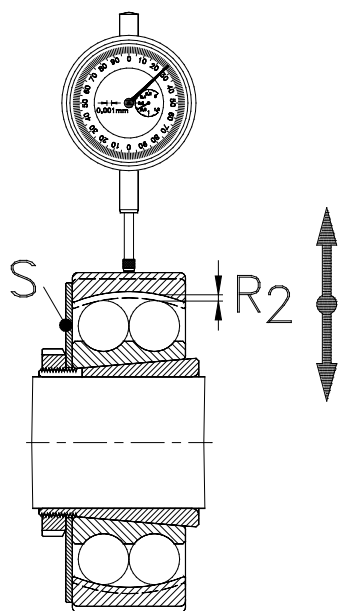

Fig. 10.15
Depending on the relevant mounting situation and the individual features of the specific application such inspection is completed either in a **direct** or **indirect** way. The indirect method is possible by a measurement of the **axial displacement**. A **direct** method of the final bearing clearance is completed using **dial gauges**, (fig. 10.15) or, for larger spherical roller bearings, by use of **feeler gauges**.
When using dial gauges they must be adjusted to the outer ring of the mounted bearing (see fig. 10.15).
In the case of self-aligning bearings, (i.e. self-aligning ball bearings and spherical roller bearings), the use of **auxiliary supporting washers (S)** is recommended to prevent the outer ring skew (fig. 10.15).